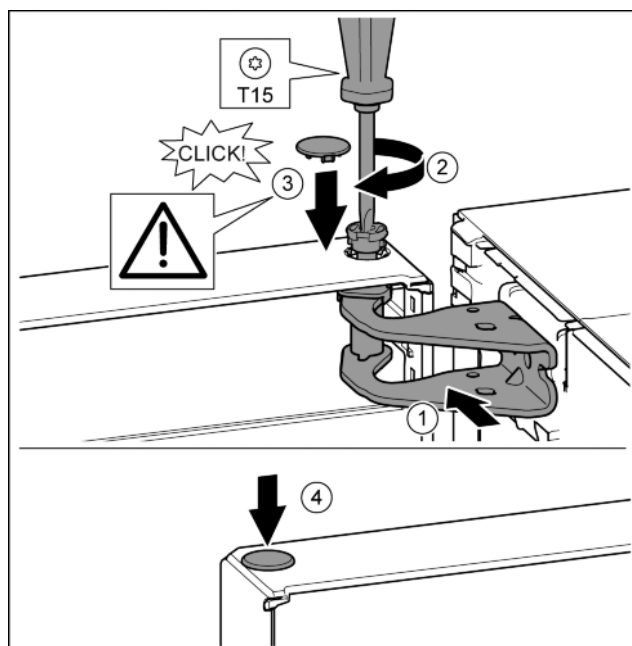

Fig. 19
- Align the top of the door with opening in the bearing bracket. Fig. 19 (1)
- Insert the bolt and tighten with a T15 screwdriver. Fig. 19 (2)
- Fit the protective cover to protect the door: Insert the protective cover and check that it is attached to the door. If not, insert the bolt fully. Fig. 19 (3)
- Insert the plugs. Fig. 19 (4)